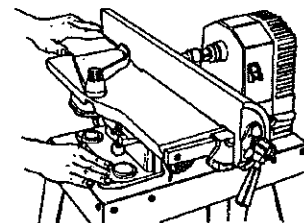

Fig.C-3
6. Unlock the carriage (21) by turning the handle (19) to the left. With your hands placed on the carriage and the Jointer, slide the carriage and Jointer toward the Power Station's drive shaft hub (31) until the coupler almost touches the hub. See Fig.C-3.
7. Lock the carriage by turning the handle (19) to the right.